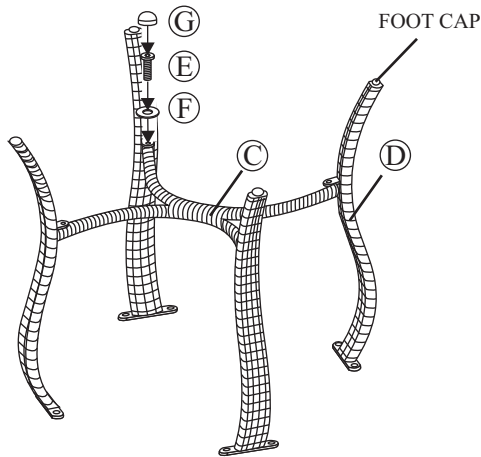

Figure 1
Step 2: Attach a leg to the leg connector bracket by using a bolt and washer as shown in *Figure 1*. Guide the bolt through the hole in the leg, into the pre-drilled hole in the leg connector bracket. **Hand tighten only 2-3 turns.** Repeat for the other legs.